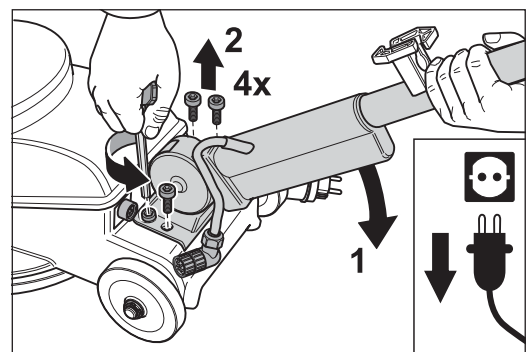

Fig. 30 Unscrew the guide tube.
- 6 Use a hexagonal socket wrench to release the four fastening screws at the base of the guide tube. Steady the guide tube with one hand as you do so (Fig. 30).